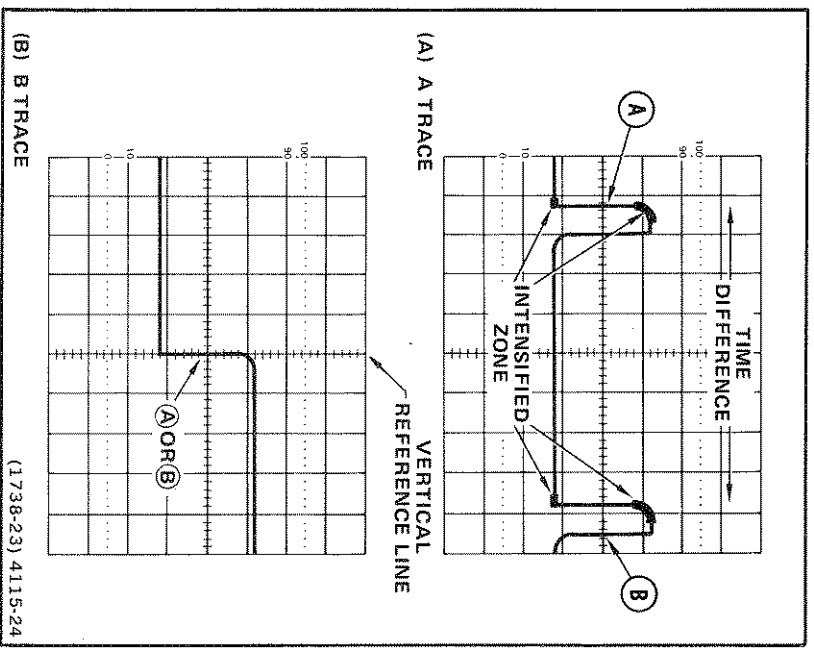

Figure 26. Time difference between repetitive pulses.
**EXAMPLE:** For the pulses illustrated in Figure 26, the first B DELAY TIME POSITION dial setting is 1.31 and the second B DELAY TIME POSITION dial setting is 8.81, with the A SEC/DIV switch set to 0.2  $\mu$ s.